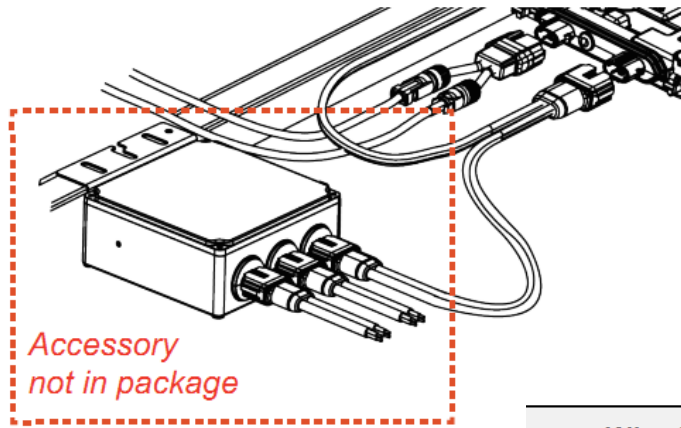

Figure 14. Connect to a junction box or an Enphase Q Aggregator
- Connect the Enphase Q Cable into the Enphase Q Aggregator (See Figure 14). The Enphase Q Cable uses the following wiring color code. A ground lug is provided on the Q Aggregator for convenient PV module/rack/balance of system (BOS) grounding.